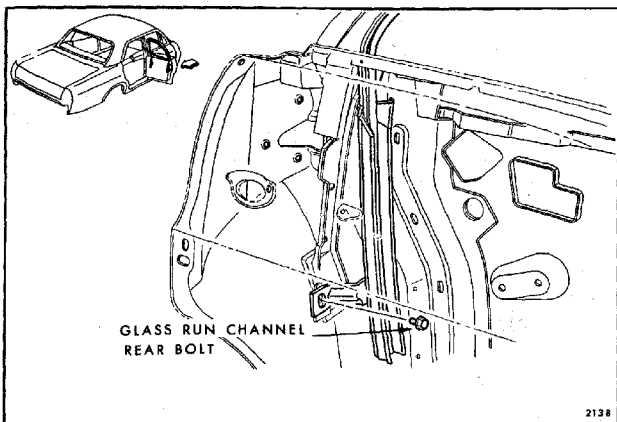

Fig. 7-131—Glass Run Channel Retention - "B" Closed Styles Except 45-46000 Series
4. Remove glass run channel front and rear attaching bolts (Fig. 7-131 and 7-132).